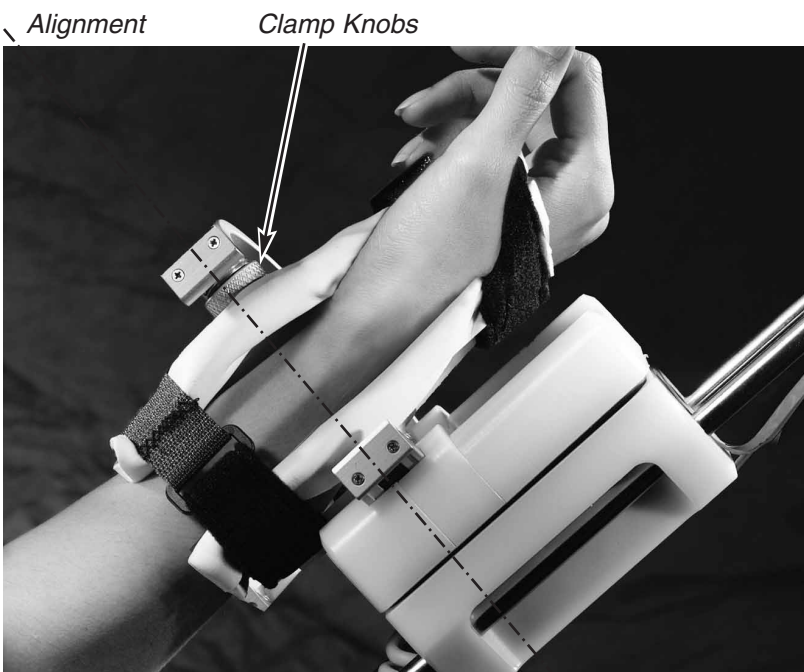

Fig. 4.2
- Align the center of the wrist clamp approximately 1" (25mm) proximal to the wrist crease and tighten the clamp knobs. (See Fig. 4.2)